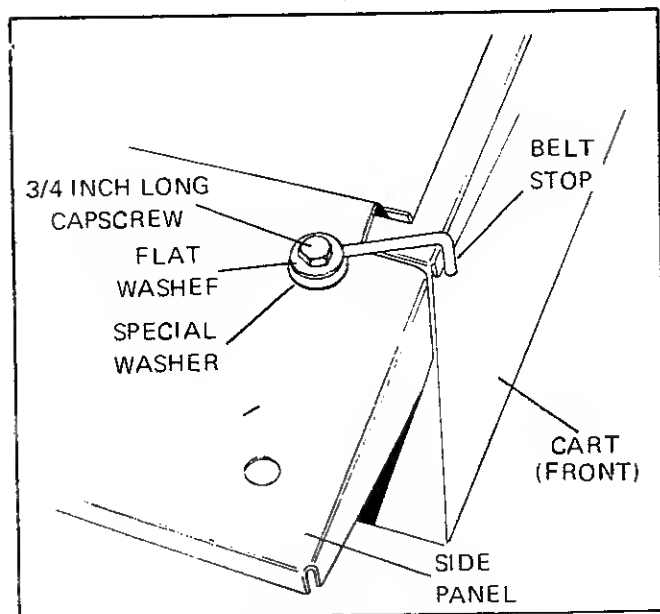

FIGURE 15
4. Secure belt stop to inside front of side panel with two flat washers (one above and one below side panel), special washer, 3/4 inch long capscREW, and locknut (Figure 15). Position belt stop at angle illustrated. Repeat procedure for remaining front corner.